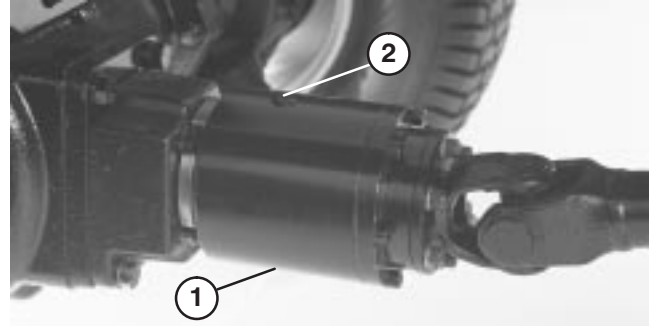

Figure 20
2. Rotate clutch (Fig. 20) so check plug (shown in 12 O'clock position) is positioned at 4 O'clock.